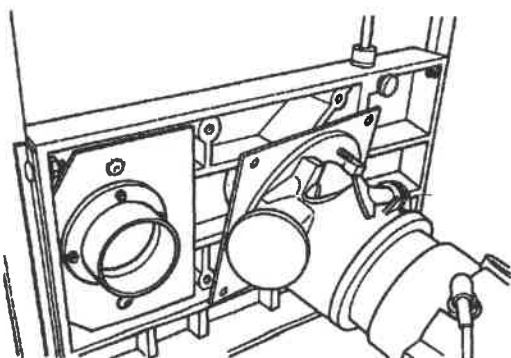
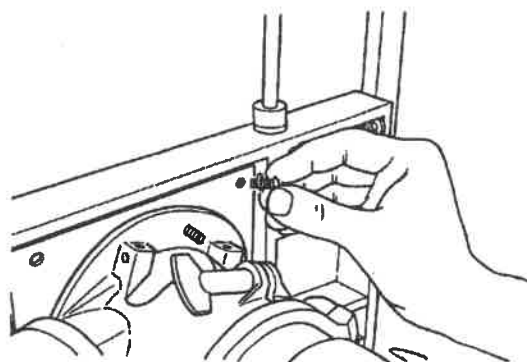

Fig. A-23
Fig. A-24
34. Put a split lock washer (7A) on a button head cap screw (10).
35. With one hand, hold the router and plate assembly against the rear of the slide, shown in Fig. A-23, and insert the screw through the top hole of the plate, and in its matching hole in the slide, as in Fig. A-24. Finger tighten.